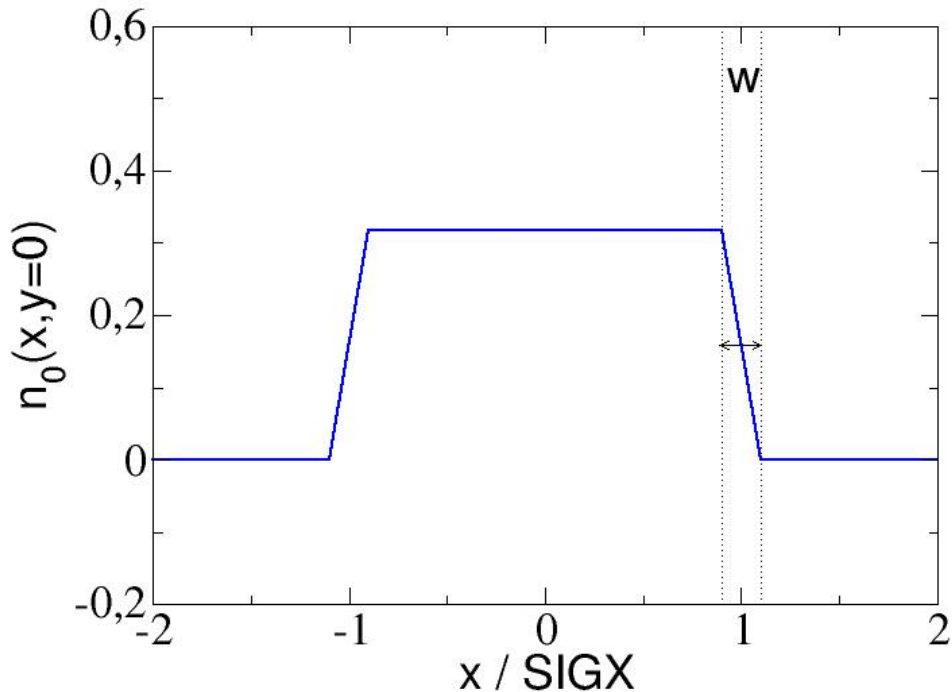

Figure 10.2: Trapezoidal shape of radial density for beam-beam lens.
- BBSHAPE=2: trapezoidal shape (see fig.10.2). SIGX, SIGY are the half widths of density profile, *i.e.* distance from the centre to half edge region with linear decrease of density in horizontal and vertical directions. Only circular opposite beam is possible, *i.e.* in the calculations $SIGX' = SIGY' = (SIGX+SIGY)/2$ is used, if SIGX and SIGY have different values. WIDTH denotes the full width of the edge region in units of SIGX (or SIGX' and SIGY', respectively, if SIGX and SIGY are not equal), *i.e.* if WIDTH=0.01 and SIGX=5mm, the edge region has a full width of 0.05 mm. Condition: WIDTH < 2.0.